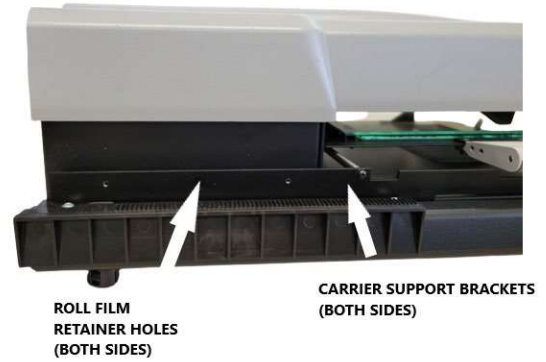

Figure 10
- a. Note the locations of the *roll film retainer holes* (both sides) on the ScanPro *carrier support brackets*. *Figure 10*